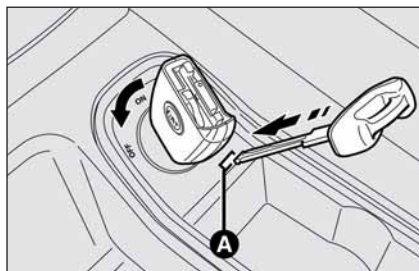

fig. 2
**IMPORTANT** If after turning the engine off with the car stopped, it is not possible to remove the key from the ignition switch, try to turn it to **ON** and then to **OFF**. If the problem persists, remove the emergency key without forcing and fit it into the proper slot **A-fig. 2** in the ignition switch; now it will be possible to turn the key to **OFF** and remove it. Contact Fiat Dealership.